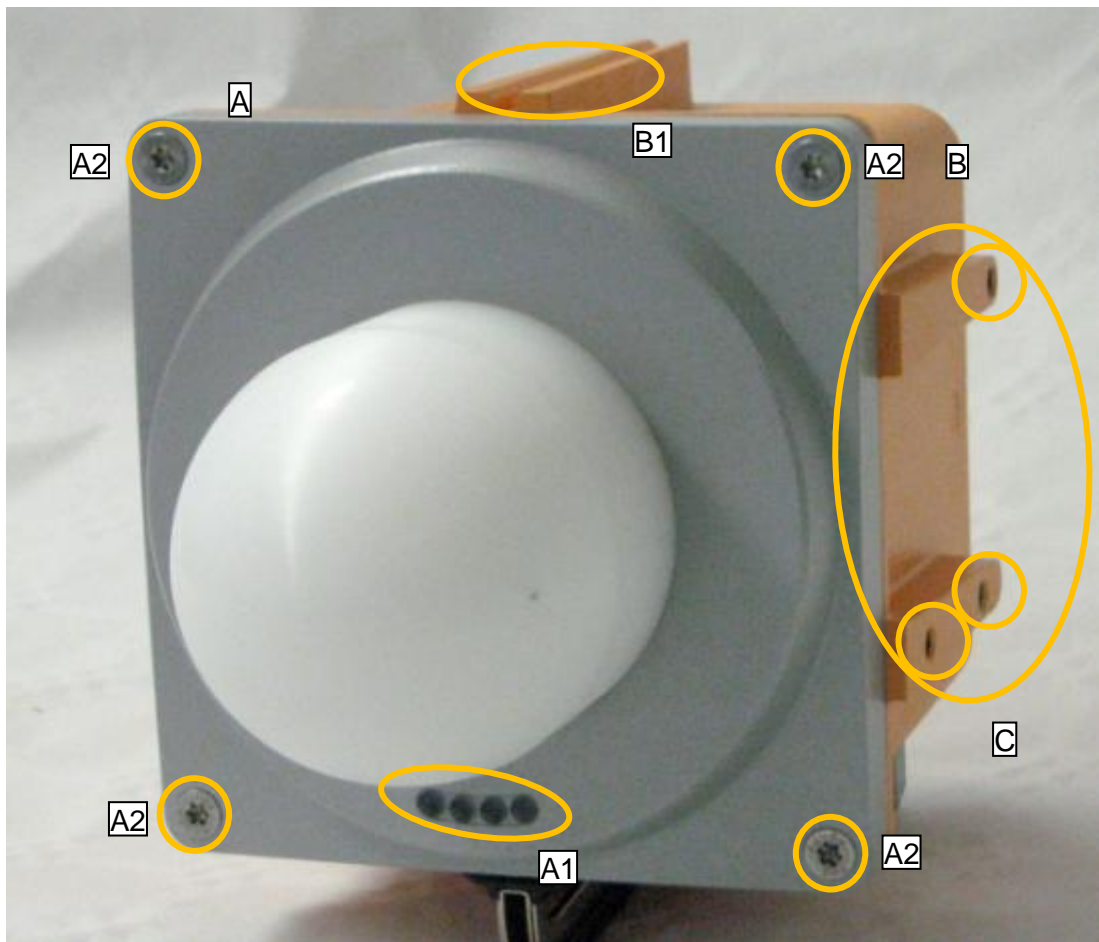
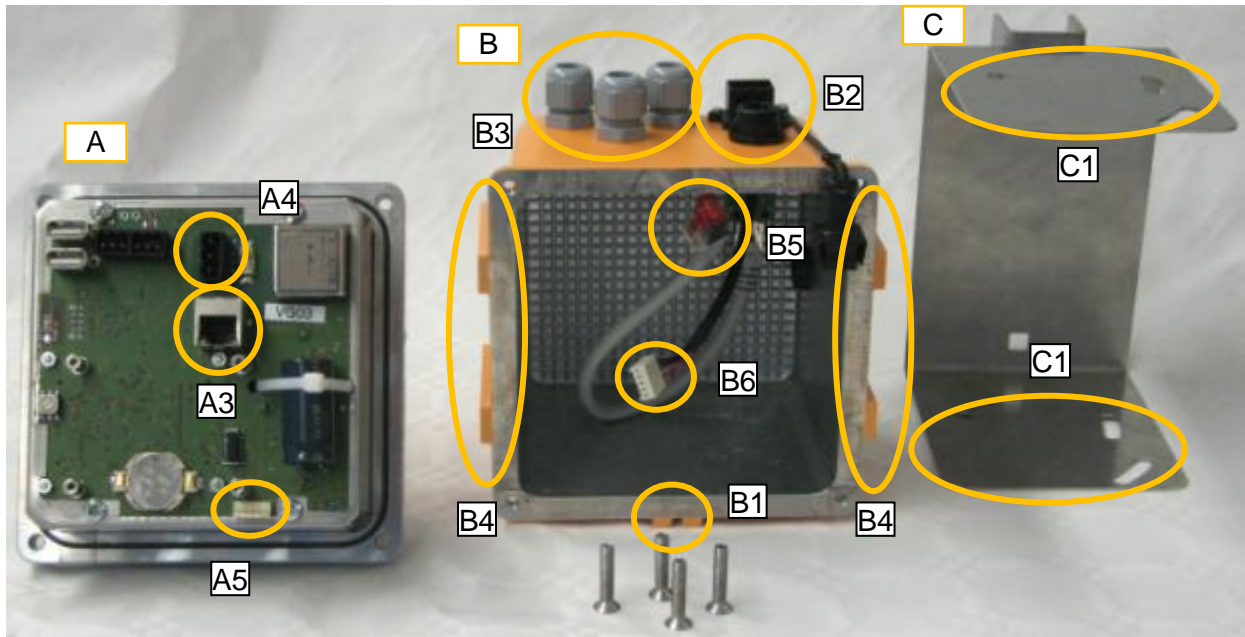

Figure 1: LPR 1DHP station consisting of
Figure 3: System components front element A, rear element B and mounting bracket C
An LPR-1DHP system consists of two units named BS and TS that conduct the measurements. One unit (BS) initiates the measurement and the second unit (TS) replies. Both units are shipped in a pre-configured set. Unit BS1 is configured to measure with TS1, BS2 with TS2 and so on. The distance values are only available on the unit labeled BS. Consequently, the unit BS must be mounted at the position where the distance values are required, e.g. on the crane-bridge. Figure 1 shows the complete system including mounting bracket for mounting on tubes.
The LPR-1DHP station consists of front element A, rear element B and mounting bracket C as shown in Figure 3.
Important parts not shown in Figure 3 like the LED display (A1) are displayed in Figure 1.
- Support element with housing screws (A2, see Figure 1)
- LED display (A1, see Figure 1)
A lot of the terms used in the following description are explained in Figure 1 and Figure 3.